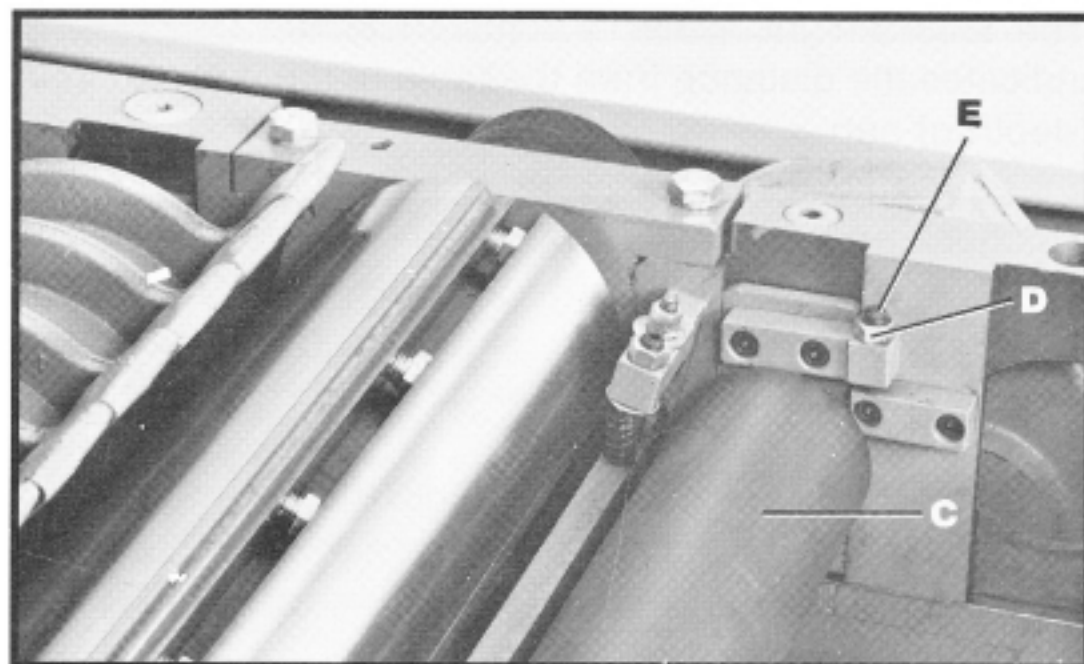

Fig. 30
5. If an adjustment is necessary, loosen locknut (D) Fig. 30, and turn adjustment screw (E) until the outfeed roll just touches the top of gage block.
6. Repeat the adjustment at the opposite end of outfeed roller. Tighten lock nut (D) Fig. 30, after adjustment is made.